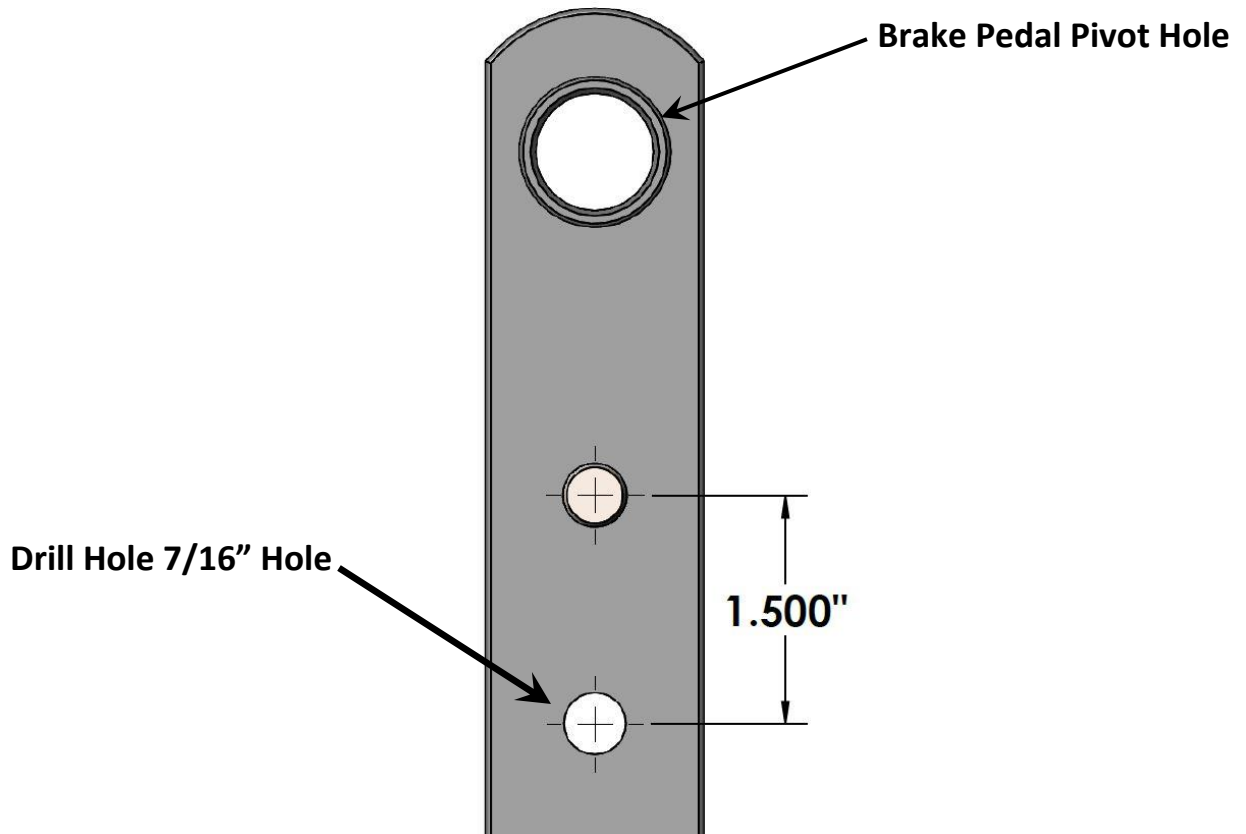

Figure 1 – OE Manual Brake Car Pedal Modification
2. With the Original Powermaster unit removed, the brake pedal must be removed from the car to drill a hole for the new pushrod. Remove the brake pedal by removing the brake pedal pivot bolt at the top of the brake pedal arm. With the pedal removed it is necessary to drill a 7/16" diameter hole 1.500" lower than the original pushrod mounting stud. Refer to Figure 1 below for reference.